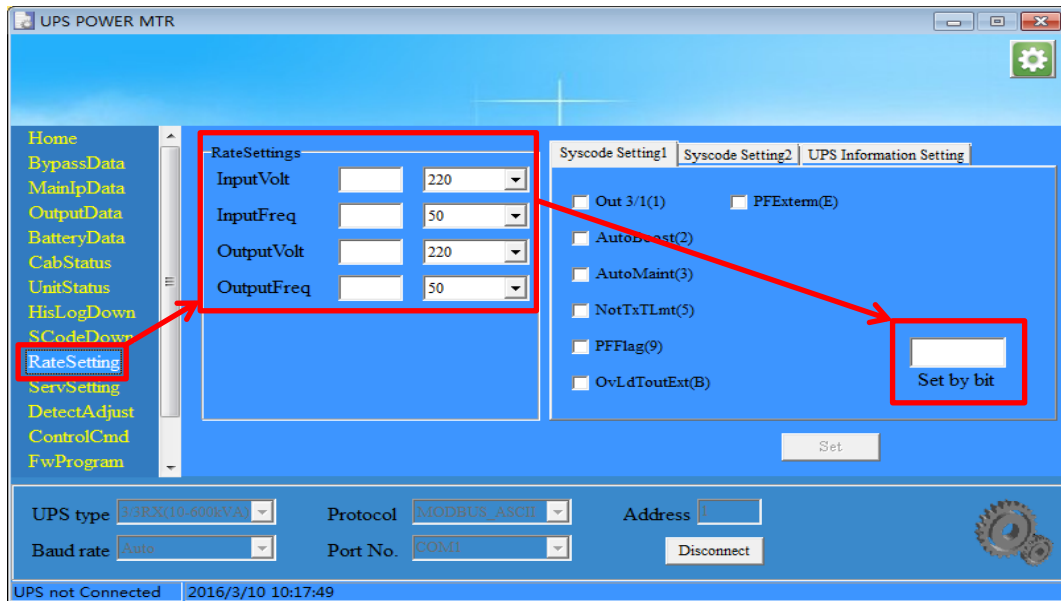

Figure 8 Rate settings
5. Connect the monitoring software, and check the UPS rate settings, as is shown in figure 8.